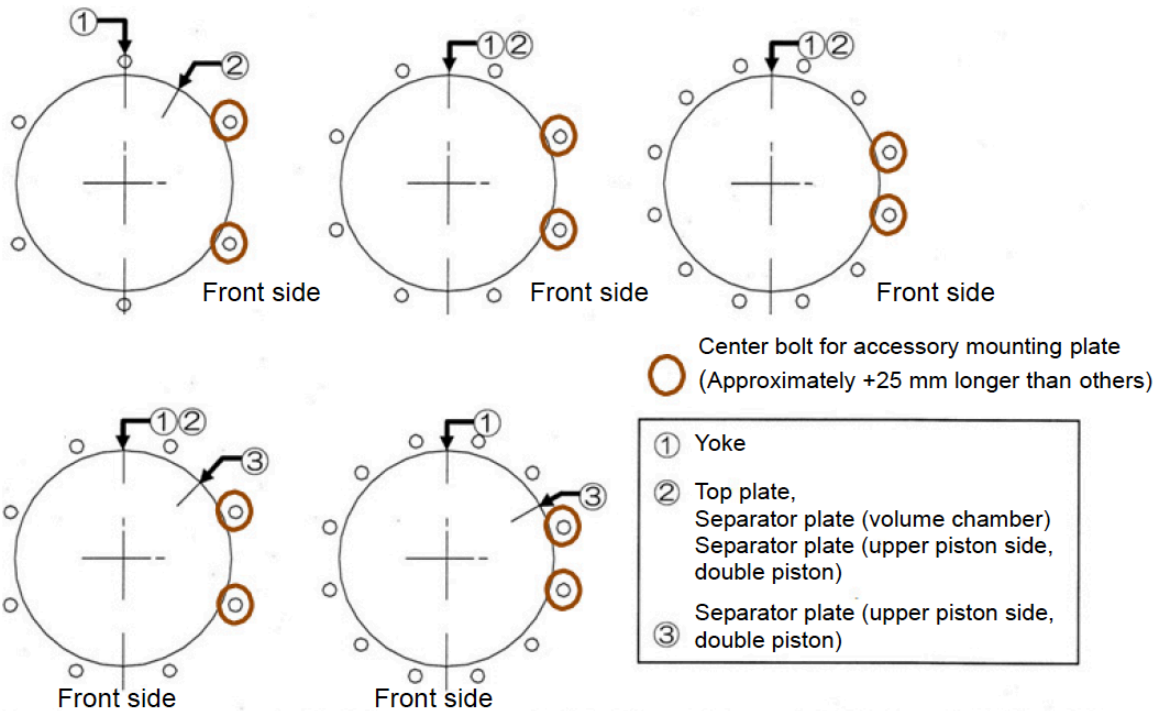

Figure 18 - Center Bolt Positioning
15. Ensure the positions of the air connections are correct. Insert the Center Bolts into the holes of the Top Plate and Yoke. Mount the Spring Washers and Nuts and tighten them lightly by hand. Mount the Spring Washers and Nuts to the bottom side of the Yoke by hand. Ensure that the position of Center Bolts (Approximately +25 mm longer than others) for the accessory mounting plate, if equipped, complies with Figure 18.